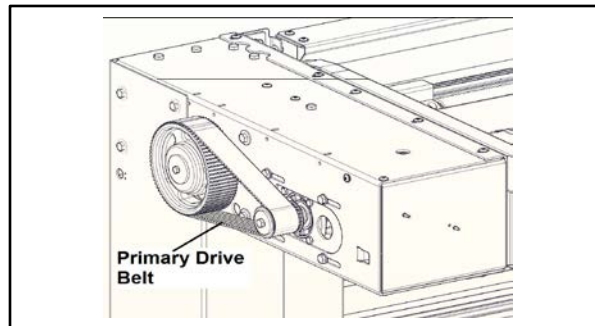

Figure 28
1. Inspect the primary drive belt. The belt should not be frayed, cracked, worn, or damaged. Also check for any damaged or missing teeth. Replace the drive belt if necessary. (See Figure 28.)